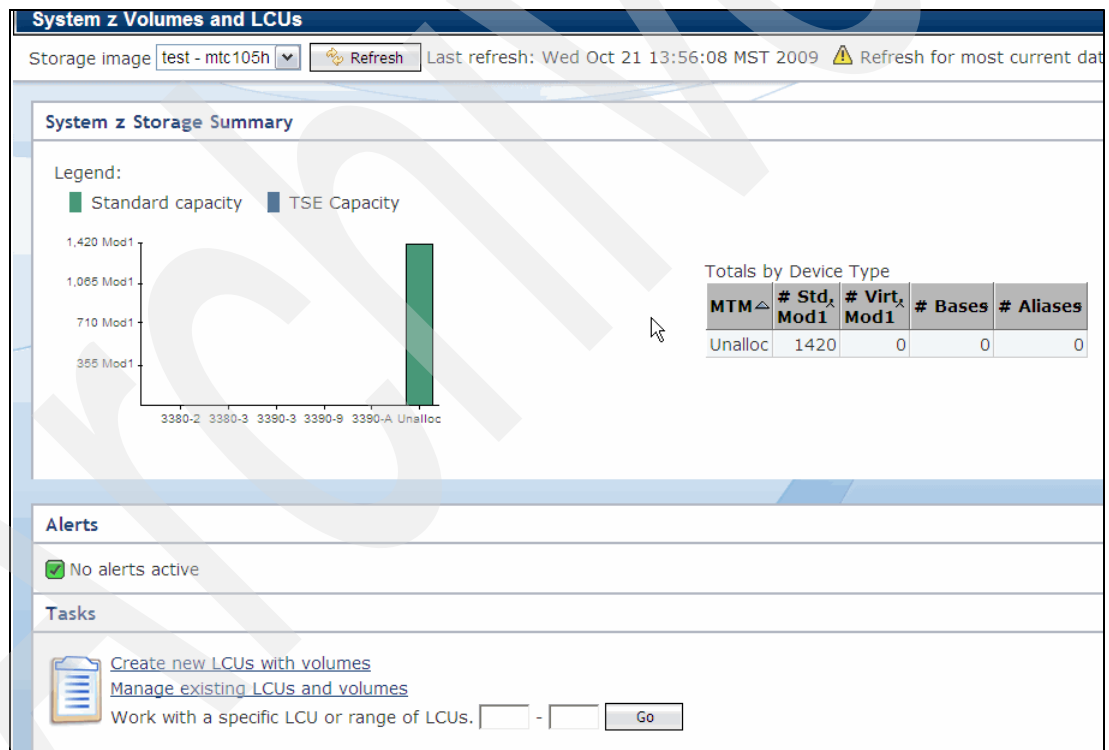

Figure 13-66 System z Volumes and LCUs window
1. Select **Configure Storage** → **System z Volumes and LCUs** in the My Work task list. The System z Storage Summary window shown in Figure 13-66 opens.